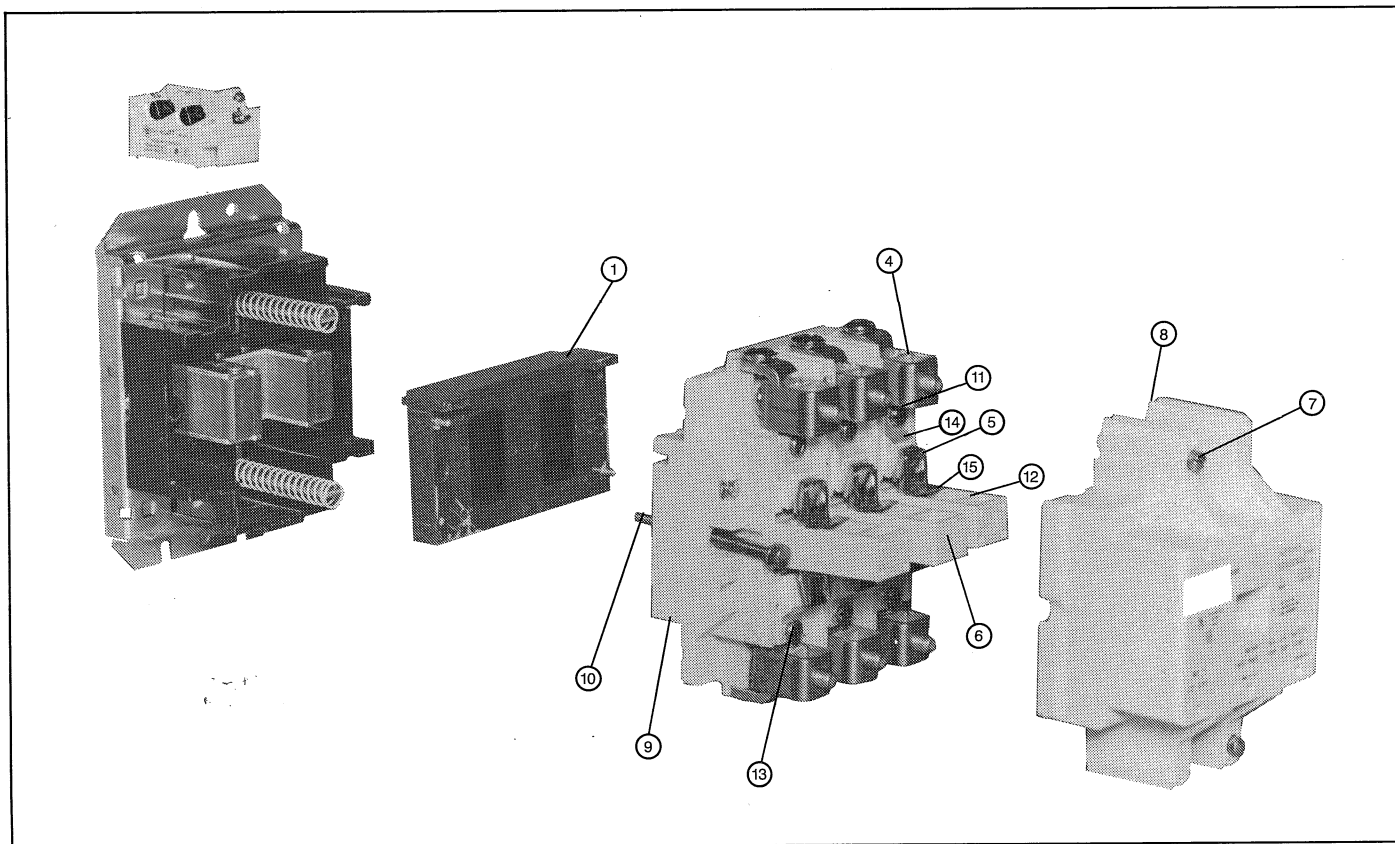

Fig. 9 Size 4 Contactor (Exploded View)
Refer to Figure 9. Loosen the two arc box assembly screws (7) located immediately above and below the nameplate and remove the arc box (8). Contacts (5) are visible. Retighten the screws per Table III.
Refer to Figure 9. Loosen the assembly screws (10) located to the immediate top and bottom of the arc box. Pull the loosened upper base structure (9) forward. Pull the coil (1) from the upper base, plug in a new coil, replace the upper base structure and check the auxiliary contacts for secureness when repositioning the upper base. Tighten the assembly screws. Refer to Table III.